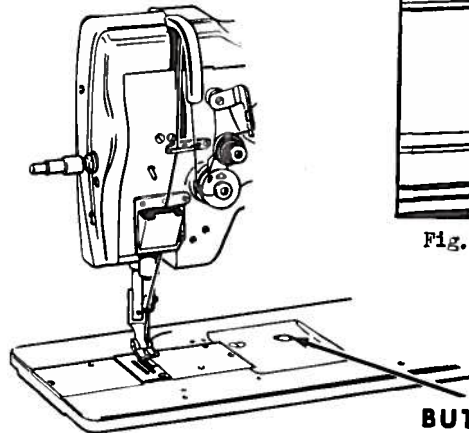

Fig. 19. Stitch Length Button Regulator
2. Depress button shown in Fig. 19.